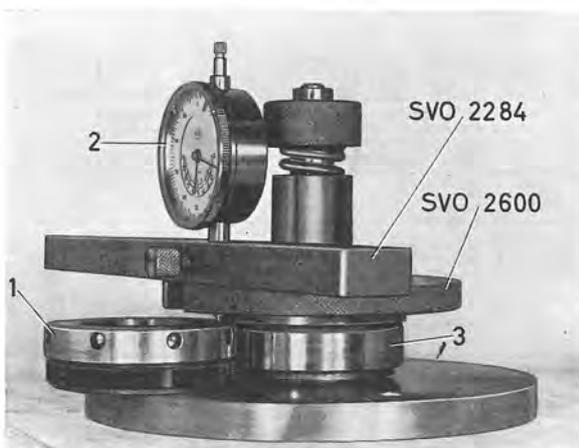

Fig. 4-155. Determining the shim thickness
- Place the rear pinion bearing complete with the outer ring in measuring fixture SVO 2600. Put on the plate, spring and nut. Turn the nut with the flat side facing upwards. The plate, and thereby the bearing, is turned forwards and backwards several times so that the rollers take up the correct position. Place the adjusting ring in the measuring fixture as shown in Fig. 4-155. Use retainer SVO 2284 and dial indicator, place the measuring point of the indicator opposite the adjusting ring and zero-set the indicator. Then set the pointer of the indicator to the outer ring of the bearing. The dial indicator now shows directly the thickness the shims should have. Measure the shims for the correct thickness with a micrometer, see Fig. 4-156. N.B. It is almost impossible to obtain a shim with exactly the correct thickness. However, they must not be 0.03 mm (0.0012") thicker than the measured value, but up to 0.08 mm (0.0032") thinner.
Rotate the plate forwards and backwards several times. Put on the dial indicator and retainer SVO 2284. Zero-set the indicator to the adjusting ring and then place the measuring point facing the bearing, see Fig. 4-155. Read off the indicator. With a micrometer measure the shims, the total thickness of which corresponds to the read-off value + 0.07 mm (0.003"). Place the shims together with the measured bearing to the one side. Repeat the above procedure with the other bearing.